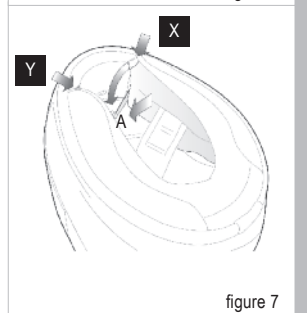

figure 7
**Removing the pads** see figure 7